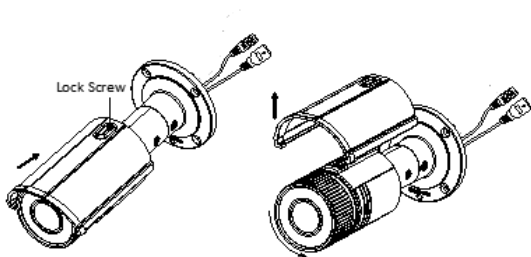

Figure 2-1 Disassemble the Camera
Slide the sun shield to the rear as shown in Figure 2-1 (left).
2. Remove the sun shield as shown in Figure 2-1 (right).
3. Remove the front cover by rotating it counterclockwise as shown in Figure 2-1 (right).